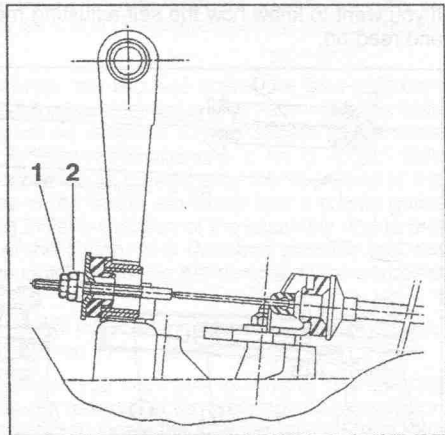
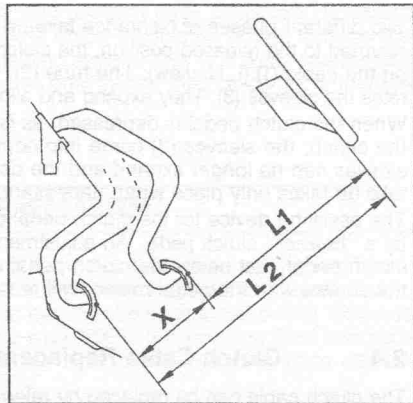

Fig. 2.3. — The adjusting nuts, i.e. locknut (1) and adjusting nut (2) are used to adjust the clutch pedal.
Fig. 2.4. — Measure dimensions "L1" and "L2" from the points shown. Deduct the value of "L1" from the value of "L2" to obtain the clutch pedal travel "X".
Only the travel of the clutch pedal is adjusted, there are no adjustments on the clutch release lever. If a new clutch cable has been fitted, operate the clutch pedal at least 30 times to allow the clutch control components to settle. To adjust the clutch pedal, refer to Fig. 2.3 and slacken the locknut (2) at the end of the clutch cable (two open-ended spanners required) and adjust the nut (1) until dimension "X" in Fig. 2.4 is between 145 and 155 mm. Note that the clutch pedal travel must not be less than 145 mm. You measure the difference between the pedal height in rest position "L1" in Fig. 2.4 and the pedal height in the "fully depressed" position "L2". Measure from the edge of the pedal to the floor panel. After any adjustment, operate the clutch pedal again approx. 30 times to settle the mechanism.